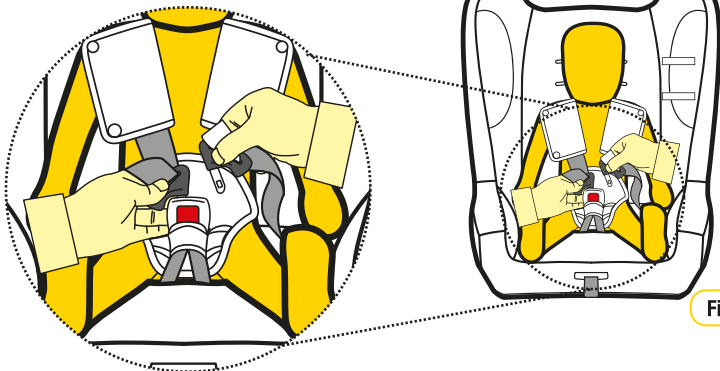

Figure 3
**Step 3:** Place child in car seat with legs either side of the buckle, place harness over the shoulders and hips (refer Figure 3) .